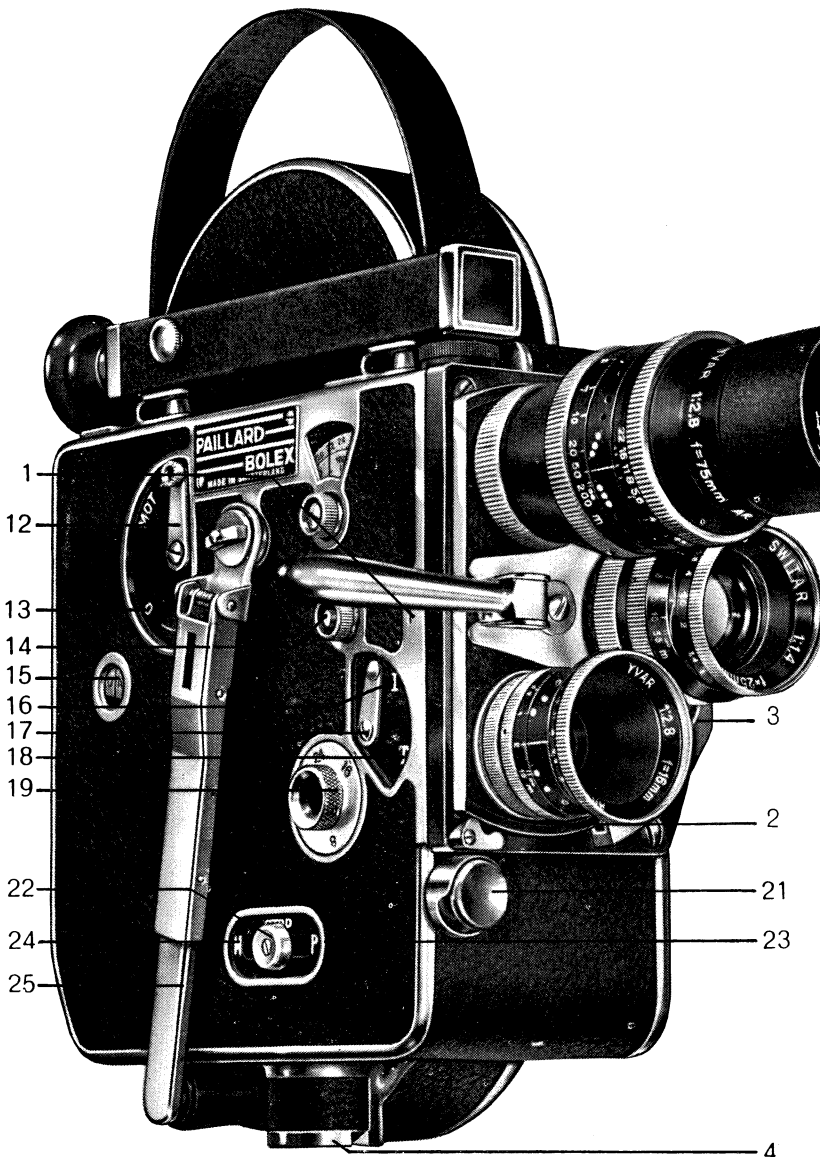

Fig. 2. Bolex H 16 Movie Camera
- a. The starting button **22** must be placed on " Stop " (Fig. 2).